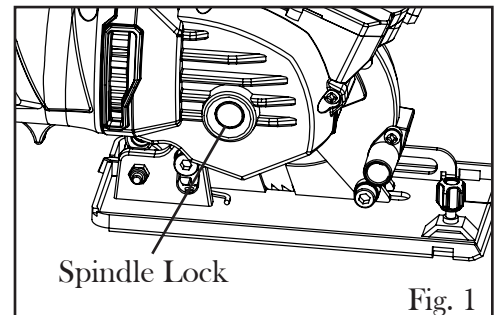
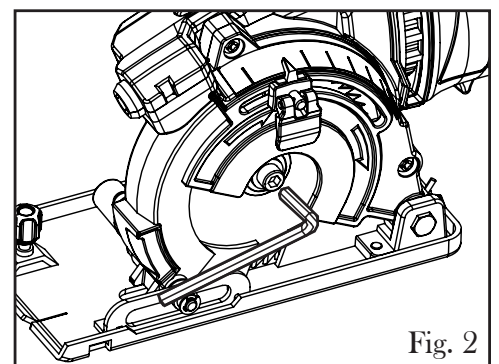

Fig. 1
Fig. 2
### INSTALLING/REPLACING THE SAW BLADE (Fig. 1 & 2)
2. Press down the spindle lock (Fig. 1) to prevent the blade from spinning. With the spindle lock pressed down, use the included M6 hex wrench to loosen the arbor screw by turning it clockwise (Fig. 2).
6. Replace the outer flange washer. Press the spindle lock (Fig. 1 - 1) and replace the arbor screw and washer. Fully tighten the arbor screw by turning it counterclockwise with the hex wrench.
### SETTING THE DEPTH OF CUT (Fig. 1 & 2)